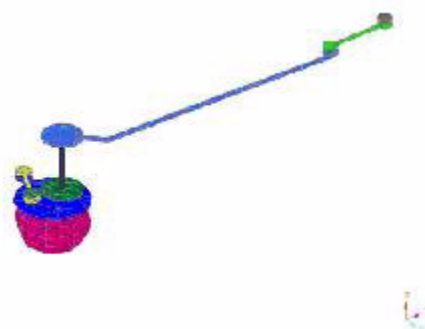

Figure 4-3: Flip-Chip Interconnect Chain
1. The I/O data reflects the full FC interconnect chain—bump, the vias, traces, and external balls as depicted in Figure 4-3.